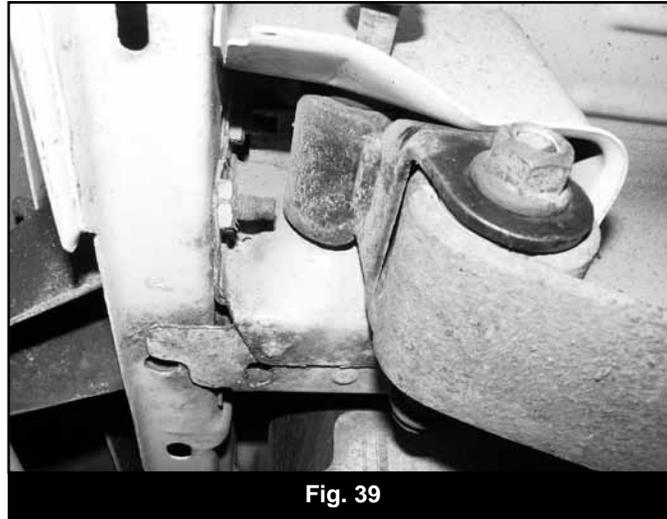

Fig. 39
15. Apply a small amount of grease to bushings (3533RB) and install bushings, sleeves (52) and grease zerks into the new shackles (01312).
16. Grease and install bushings into leaf spring eyes (M02402RB & M02403RB) then install sleeves (52 & 51). Note: The longer sleeves (51) go in the large spring eye bushings.
18. Locate the bumper bolt that is protruding into the shackle pocket (Fig 39). This bolt will contact the new larger shackle through suspension travel. The bolt can either be cut off flush with the welded nut on the body or removed.